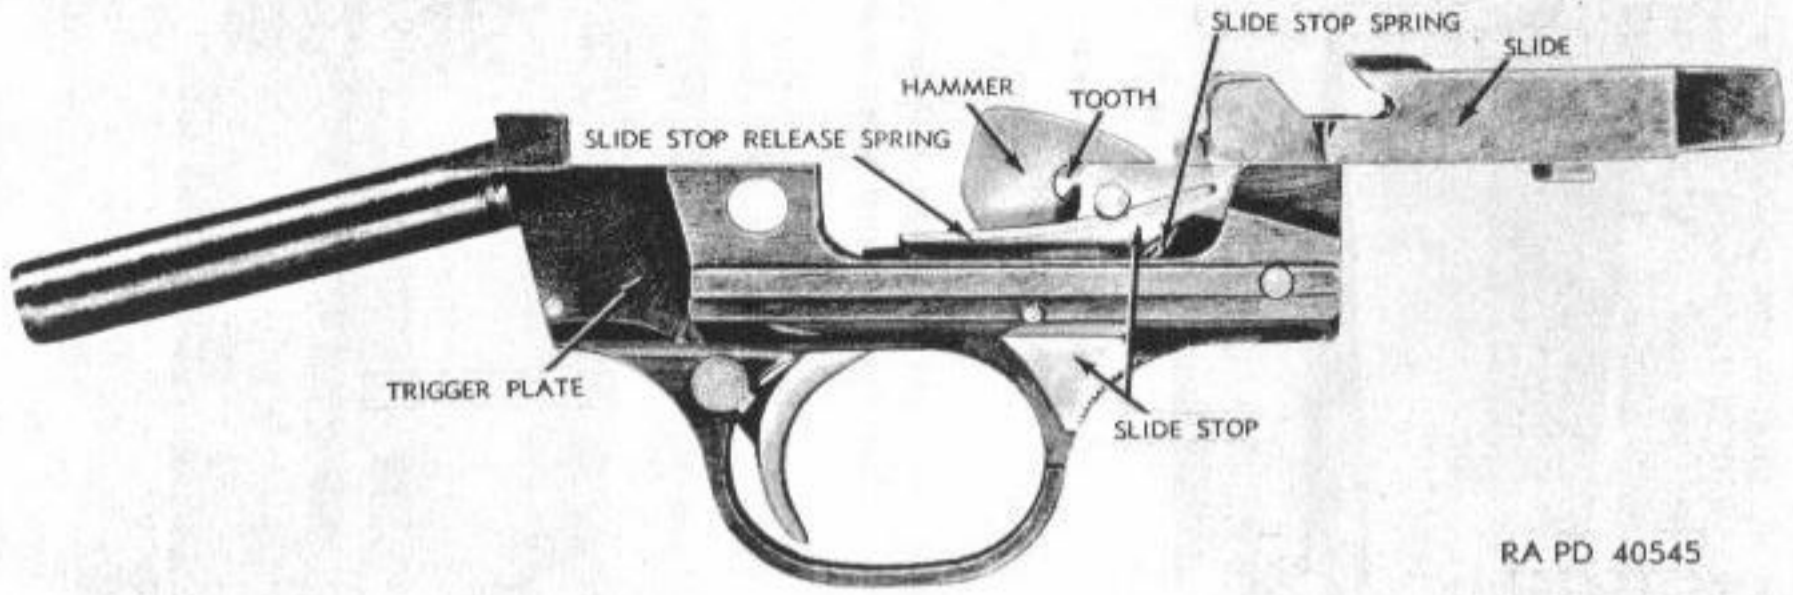

Figure 61—Slide and Trigger Plate Groups—Slide Riding Over Stop—Hammer Locked—Ithaca Shotgun M37
e. As the hammer reaches the extreme rearward position, a lug on the hammer is caught and held by a hook on the slide stop, and is so held until the slide nears the forward position and the breechblock has been cammed up in front of the locking shoulder in the top of the receiver (fig. 61). At this point, about  $\frac{1}{4}$  inch from the extreme forward position of the slide, the slide cams the stop from engagement with the hammer and the sear immediately engages and retains the hammer in the cocked position, thus preventing premature firing of the gun.